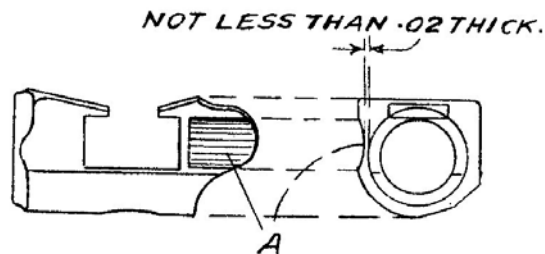

Fig. 4.
11. *Fitting a No.1 head to the windgauge screw of No.1 "A" sight leaf.*—When fitting the No. 1 head to the windgauge screw of rifles fitted with slides of earlier manufacture, a radial groove is to be filed in the right rear side of the slide, at "A," Fig. 4, to give clearance to the No. 1 head, which is larger than the earlier pattern. The depth to which the groove is to be filed will be determined by trying the slide on the sight leaf (assembled with windgauge and screw with No.1 head) until it can be set just below the 200 yards position.